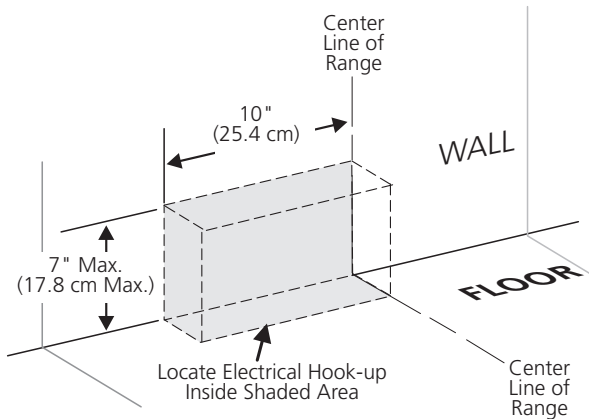
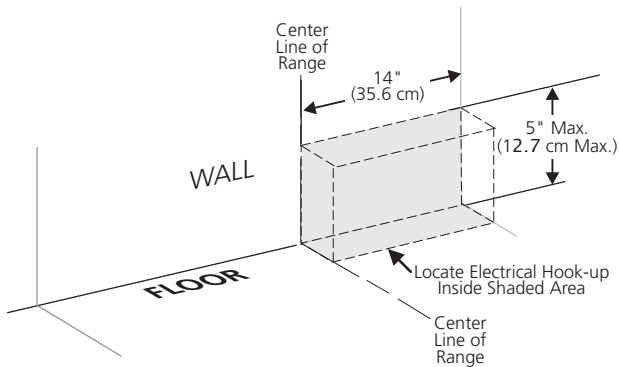
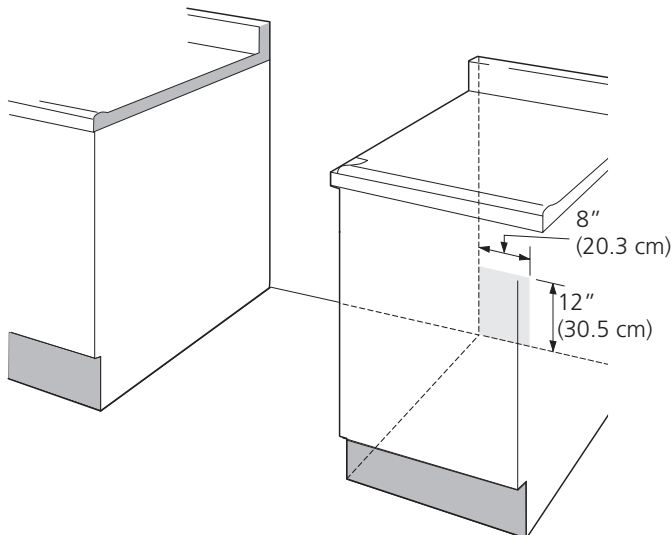

Figure 4: 30" Models Outlet Location
Figure 5: 36" Models Outlet Location
Figure 6: Adjacent Cabinet Outlet Location
1. If range will be installed with a cabinet on both sides, Draw a center line on the floor between the cabinets (Figure 5).
Suggested location of the wall outlet is shown in Figure 4 for 30" models and in Figure 5 for 36" models. The outlet may also be located in the lower left corner of the adjacent right cabinet, as shown in Figure 6